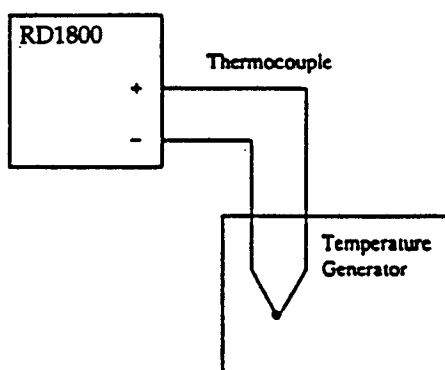

Figure A-5. Reference Junction Compensation Accuracy Test Connection
The specification for thermocouple types R, S, B, and W (C) is $\pm 1^\circ\text{C}$. For thermocouple types K, J, E, T, N, L (J DIN), and U (T DIN) it is $\pm 0.5^\circ\text{C}$. The tolerance for thermocouple types R, S, B, and W is -1°C to 1°C . For thermocouple types K, J, E, T, N, L, and U, it is -0.5°C to 0.5°C . The required equipment is a temperature generator, with a generated temperature of $\pm 0.01^\circ\text{C}$ (TRC111), and a thermocouple that is, at most, 0.3 mm in diameter (type T recommended). The connection is shown in Figure A-5.
1. Connect the equipment as shown in Figure A-5.